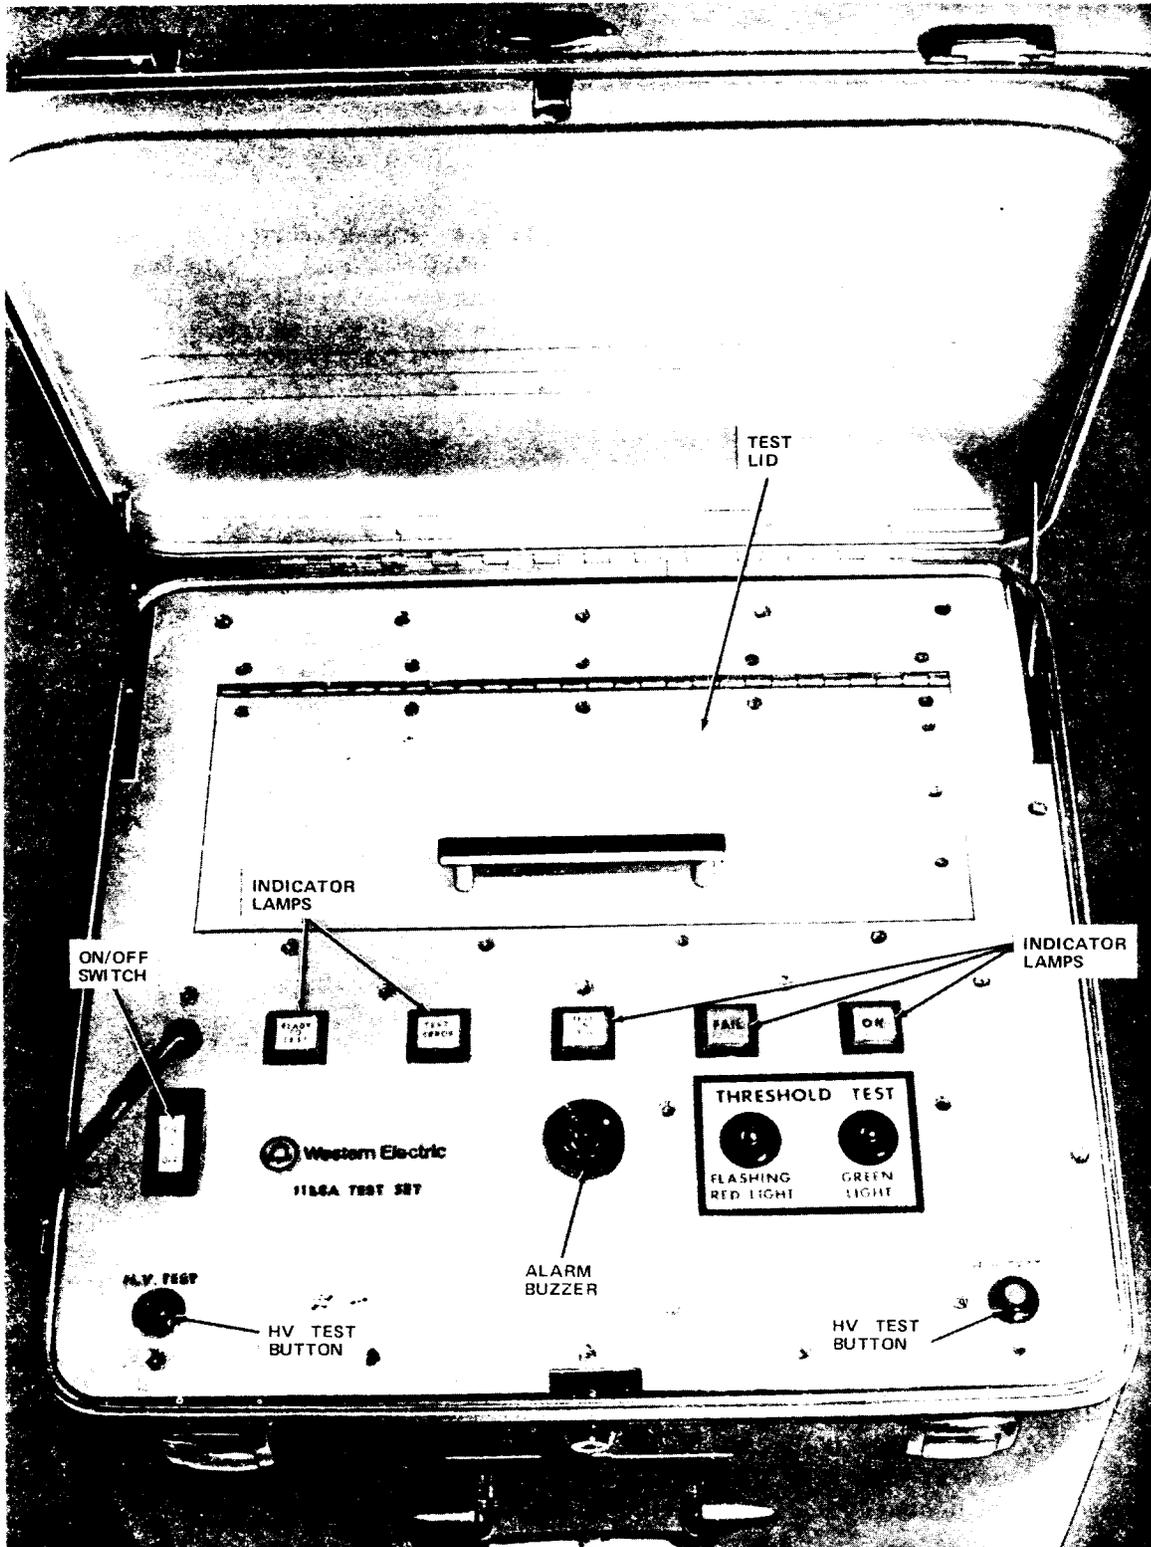

Fig. 2—Front Panel
**3.01** The 1188A test set is portable and operates on 110-120 Vac 60 Hz. The test set is housed in a case designed for transporting or shipping without the use of other containers. The test set weighs approximately 39 pounds and is 18 inches wide by 12 inches high by 18 inches long. The power cord is stored in the cover of the test set. All controls and indicators are located on the front panel (Fig. 2). There are no internal controls or adjustments to be made.